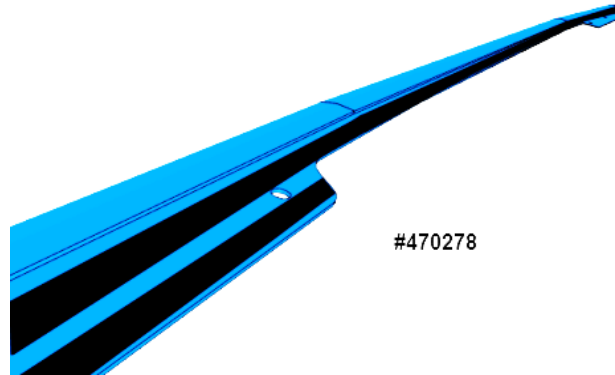

FIGURE 45
6. Apply two strips of double face self-adhesive tape, one to each side of the drilled holes (except in the middle where only one strip can be applied) along drip edge #470278 as shown on FIGURE 45.
8. Draw a line to mark the center of both drip edge (FIGURE 45).